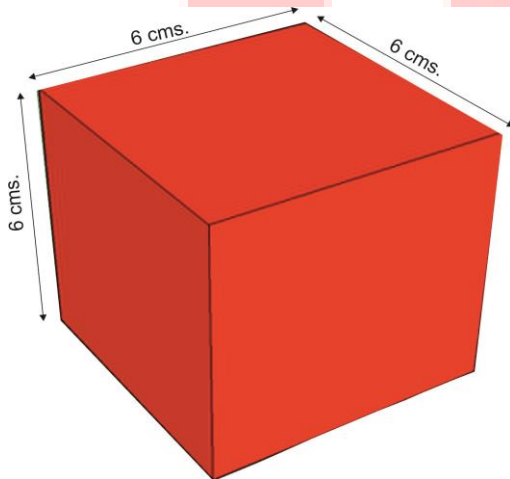

Figure 6: Red (R) Service
- Team prepares 2 Services each of Red (R), Green (G) and Blue (B) by covering the blocks with respective colored chart paper. A Red (R) Service is shown as an example in Figure 6.